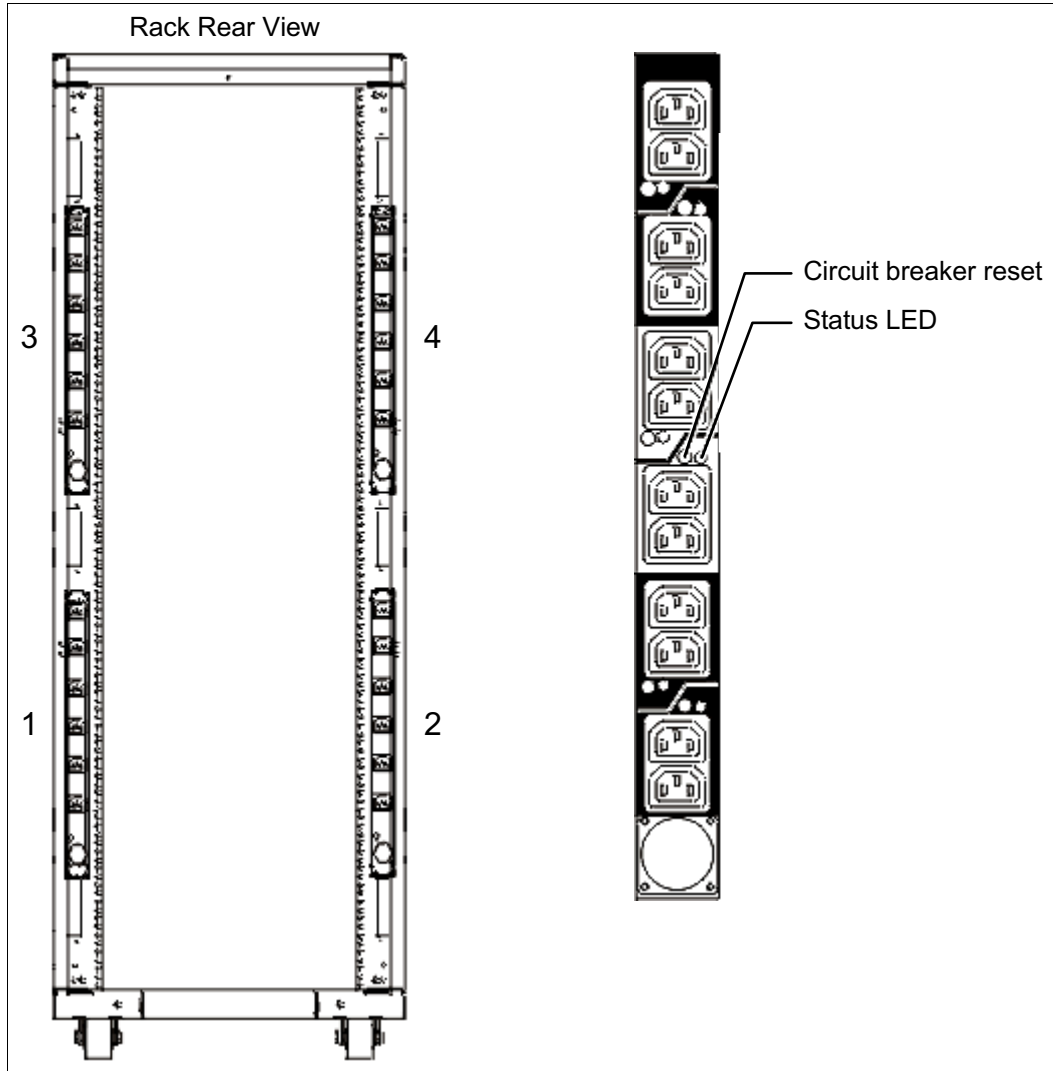

Figure A-2 PDU placement and PDU view
- ▶ Up to four power distribution units (PDUs) can be mounted in the PDU bays (see Figure A-2 on page 69), but others can fit inside the rack. For more information, see “The AC power distribution unit and rack content” on page 68.
Four PDUs can be mounted vertically in the back of the T00 and T42 racks. Figure A-2 shows the placement of the four vertically mounted PDUs. In the rear of the rack, two additional PDUs can be installed horizontally in the T00 rack and three in the T42 rack. The four vertical mounting locations are filled first in the T00 and T42 racks. Mounting PDUs horizontally consumes 1U per PDU and reduces the space that is available for other racked components. When mounting PDUs horizontally, the preferred approach is to use fillers in the EIA units that are occupied by these PDUs to facilitate the correct airflow and ventilation in the rack.